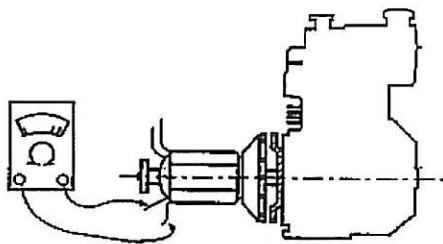

Figure 5-10. Alternator Test 2
- b. Unsolder wires from diodes (25) and check resistance of each winding as shown in Figure 5-10. Values shall be: primary 0.57 ohms and secondary 1.9 ohms.